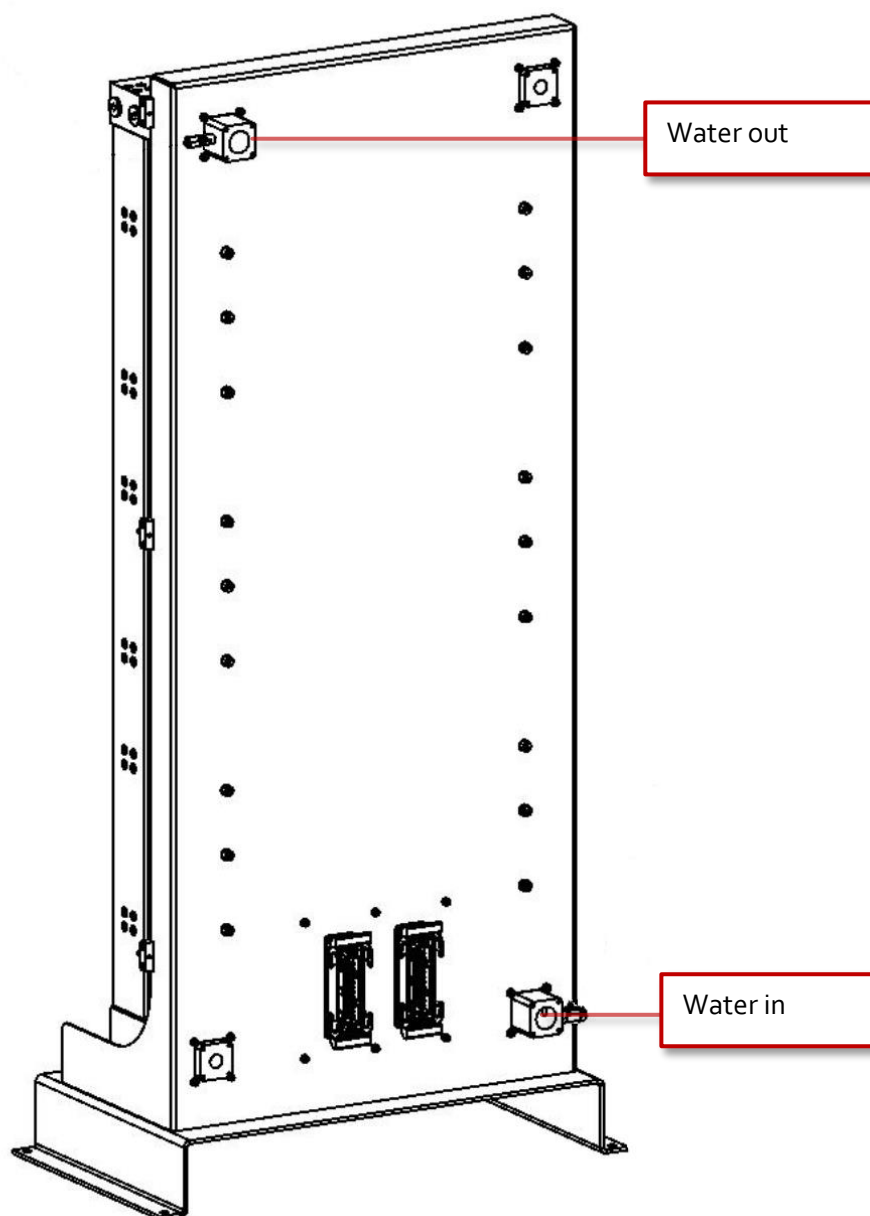

Figure 51 Water direction (GM18 in this example)
2. Make sure that the cooling water goes in at the bottom and out at the top, see Figure 51.